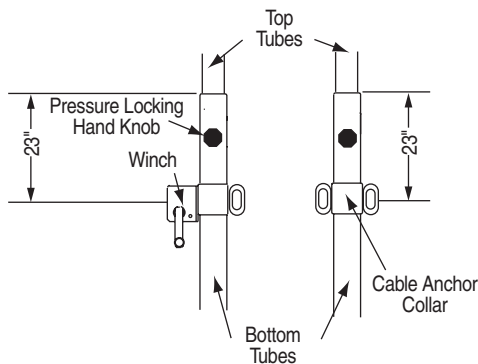

Figure 1
- ① Attach winch assembly onto one 3 1/2" O.D. bottom tube. Locate approximately 23" from end with holes, and tighten screws with allen wrench (see Fig. 1).
- ② Attach cable anchor collar onto the other 3 1/2" O.D. bottom tube. Locate approximately 23" from end with holes, and tighten screws with allen wrench (see Fig. 1).